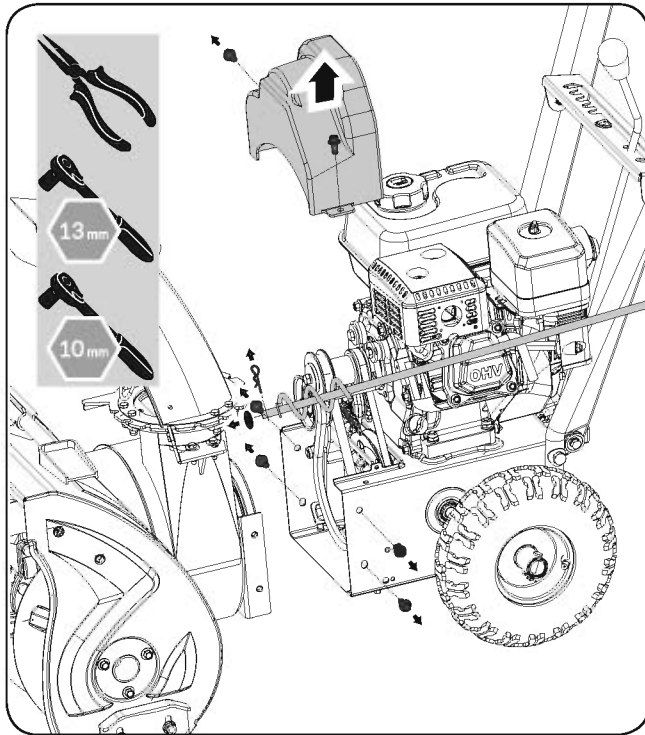

Figure 21c
- Remove the screws securing auger housing to the frame (two on each side). Tip auger housing and frame apart. (See **Figure 21c**)